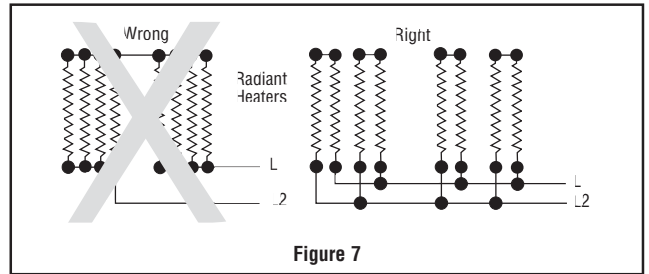

Figure 7
8. **SERIES CONNECTION** of Radiant Heaters of equal volt and watt rating is permitted in all line voltages up to 600 volts. In making such series connections it is necessary to observe the "right" (series-parallel) connection rather than the "wrong" (parallel-series) connection both shown in Figure 7. If heaters are connected according to the "wrong" illustration, failure of any heater will cause progressive failure of other heaters still operating.